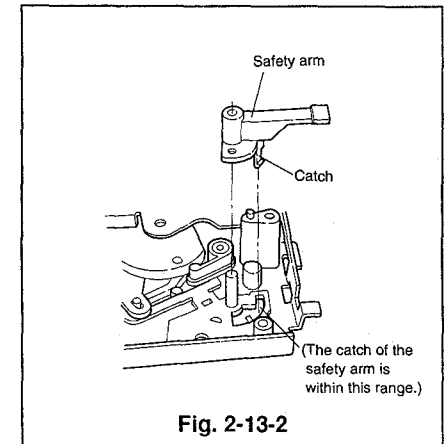

Fig. 2-13-2
- 1 Reverse the deck and fix the safety arm to the shaft of the main plate so that its catch is within the range shown in Fig. 2-13-2.